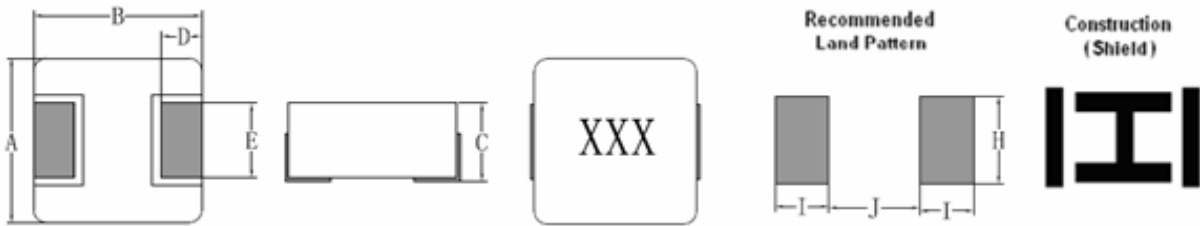

Fig. 4-1
- 1) Dimensions and recommended PCB pattern for reflow soldering: See Fig.4-1 and Table 4-1.